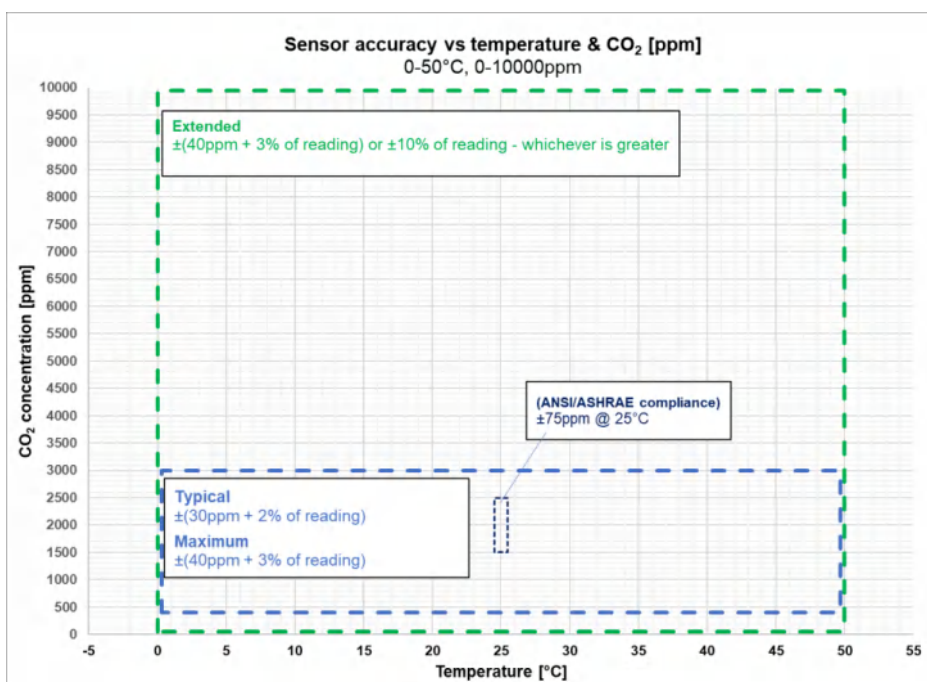

Figure 4 Accuracy over complete operating range (temperature and measurement of CO₂).
- Note 3: ANSI/ASHRAE Addendum ab to ANSI/ASHRAE Standard 62.1-2022 specifies sensor to be accurate within ±75ppm at concentrations of 600, 1000, and 2500ppm when measured at sea level at 77 °F (25 °C). See Figure 4.
- Note 4: In normal IAQ applications. Accuracy is defined after minimum three (3) ABC periods of continuous operation with ABC on. Some industrial applications do require maintenance. Contact Senseair for further information!